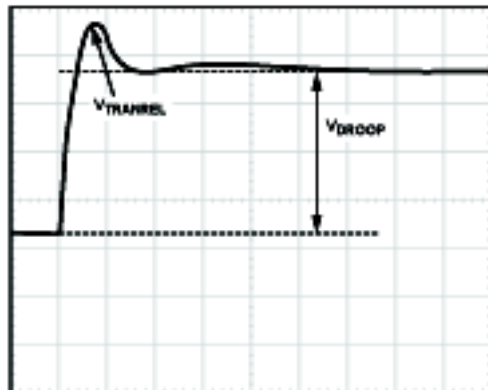

**Figure 28. Transient Setting Waveform, Load Step**
1. With the dynamic load set at its maximum step size, expand the scope time scale to 2  $\mu\text{s}/\text{div}$  to 5  $\mu\text{s}/\text{div}$ . This results in a waveform that may have two overshoots and one minor undershoot before achieving the final desired value after  $V_{DROOP}$  (see Figure 28).